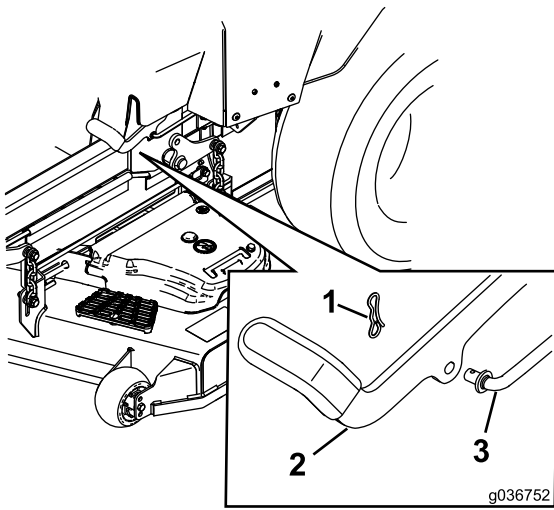

Figure 60
7. If an adjustment is necessary, disengage the parking brake. Remove the cotter pin from the brake linkage shaft (Figure 60).